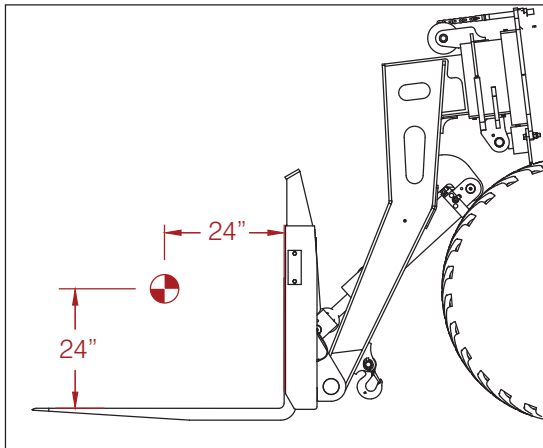

Figure 26 Load Center
- Ensure that the load center for the load is at or within 24 in of forks (refer to Figure 26).